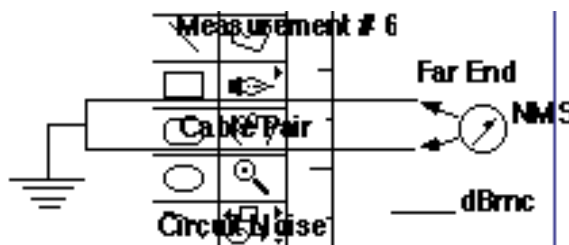

Figure 4: Measurement #6
end open, measure the circuit noise (CN) and the power influence (PI) at the far end. These are measurements #6 and #7 (See Figures 4 and 5).